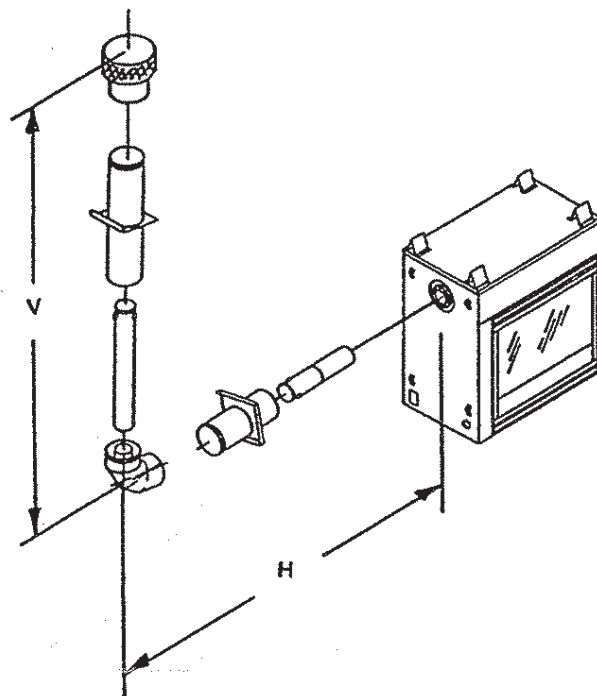

FIGURE 6
Figure 6 and Table 3 show examples of possible installations using one (1) 90-degree elbow. Dimension V is listed as **MINIMUM** vertical dimensions and dimension H is listed as corresponding **MAXIMUM** horizontal dimensions. Vertical dimensions are based on centerline to centerline of pipe. Horizontal dimensions are based on back of the unit to centerline of pipe.